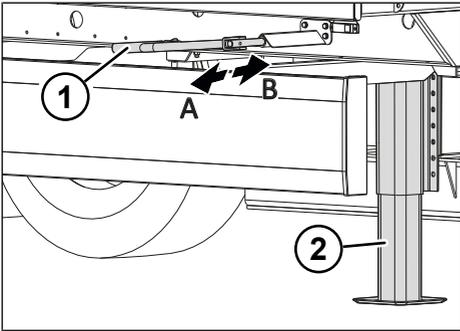

Fig. 5-2: Load speed and rapid speed of the landing leg winch
- ▶ Switch on rapid speed by pulling out the hand crank (see "Fig. 5-2: Load speed and rapid speed of the landing leg winch", pg. 22).
- ▶ Switch on load speed by pushing in the hand crank (see "Fig. 5-2: Load speed and rapid speed of the landing leg winch", pg. 22).
- ▶ Set to load speed by pushing in the hand crank (see "Fig. 5-2: Load speed and rapid speed of the landing leg winch", pg. 22).
- ▶ Set to high speed by pulling out the hand crank (see "Fig. 5-2: Load speed and rapid speed of the landing leg winch", pg. 22).